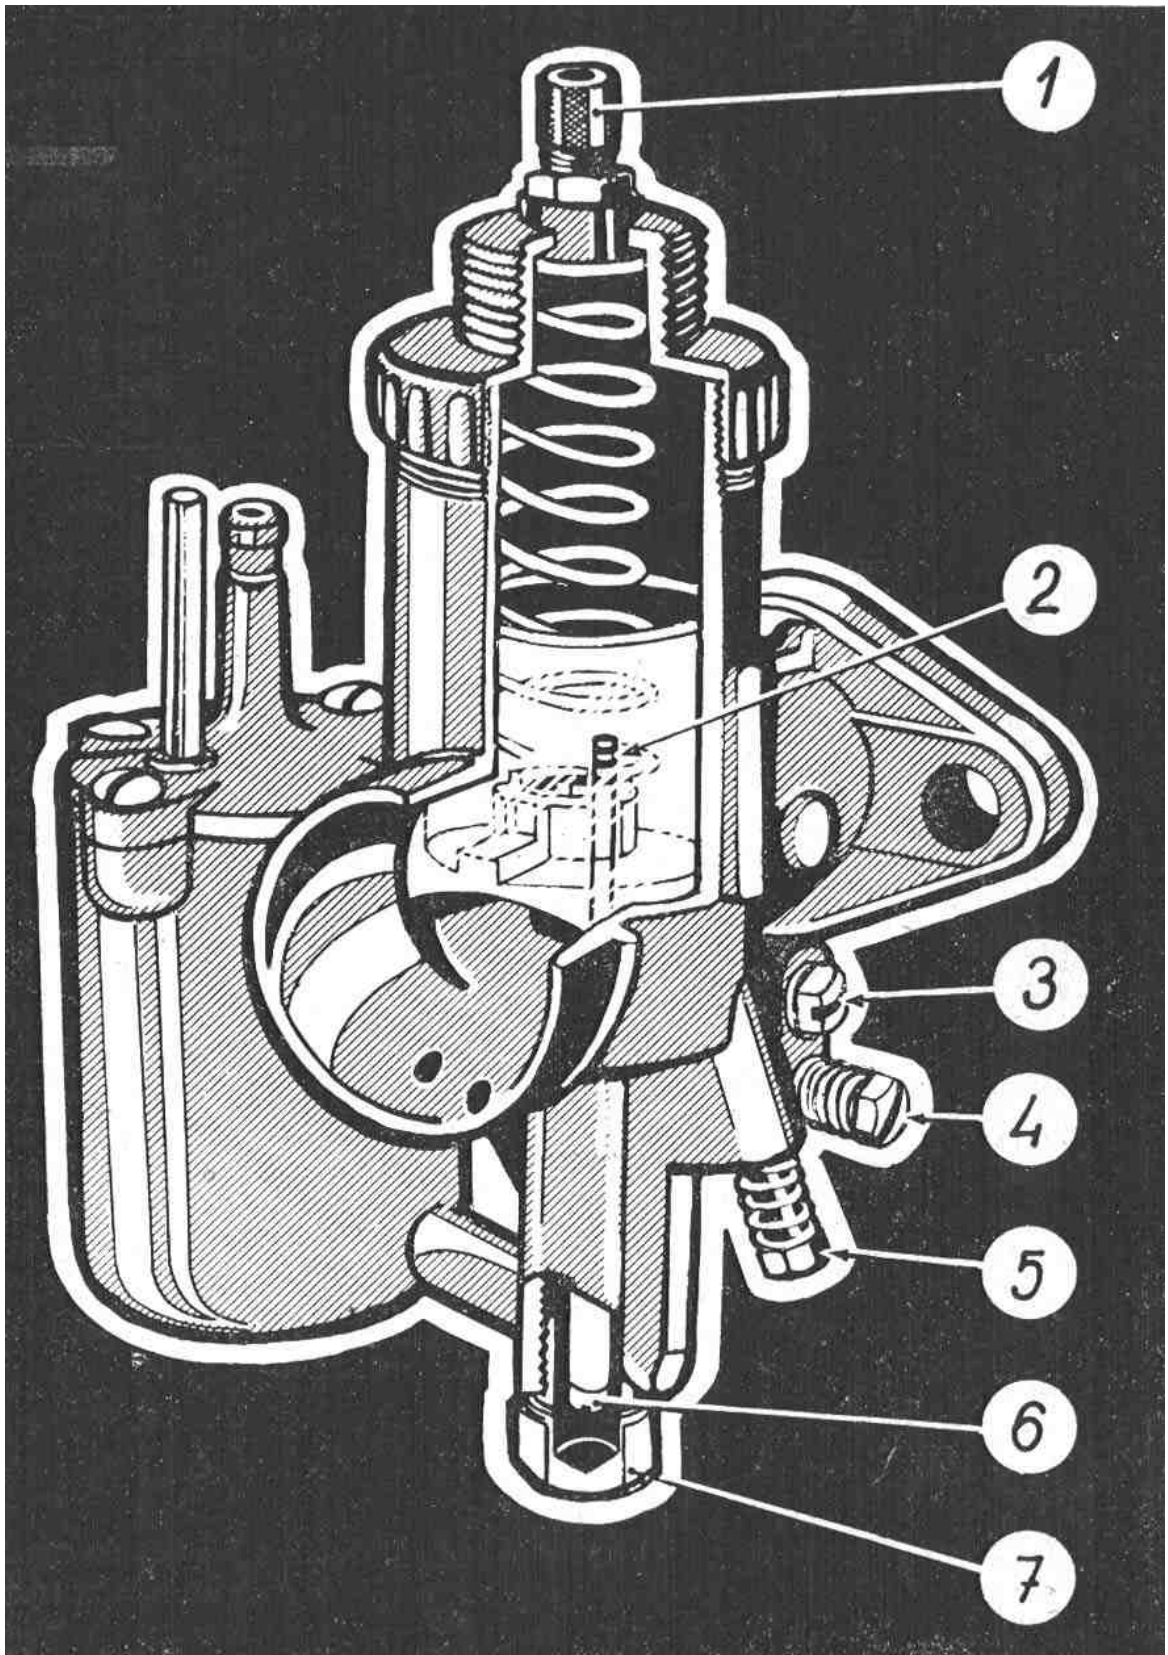

Fig. 22 – Sectional view of carburettor
- c) Clean the cam (9) of the automatic clutch release lever (10) with petrol or kerosene;
- d) Hold the clutch release lever (10) with the fingers of your left hand and swing the lever toward the cam and back;
- e) If you ascertain a play, rotate the adjusting screw of the automatic clutch disengagement (8) clockwise till the gap between the clutch release lever (10) and the cam (9) is about 0.1 to 0.3 mm (the lever can be slightly moved away from the cam by applying a light pressure only);
- g) Smear the cam (9) and the lever (10) of the automatic clutch disengagement slightly with grease.
8. CARBURETTOR (Fig. 22)